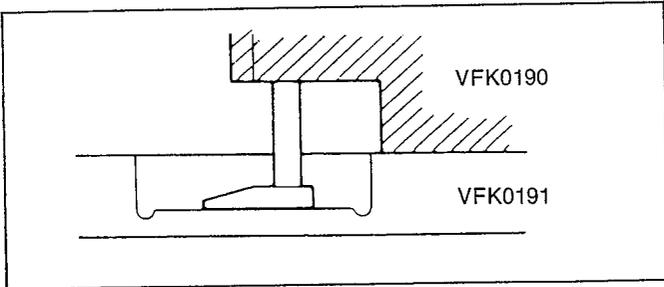

Fig. M6 Adjustment of Reel Table Height-(1)
3. Place the Reel Table Height Gauge on the plate so that the scraper of the gauge touches the cut-out portion of the plate, then set the gauge to zero "0" as shown in Fig. M6.